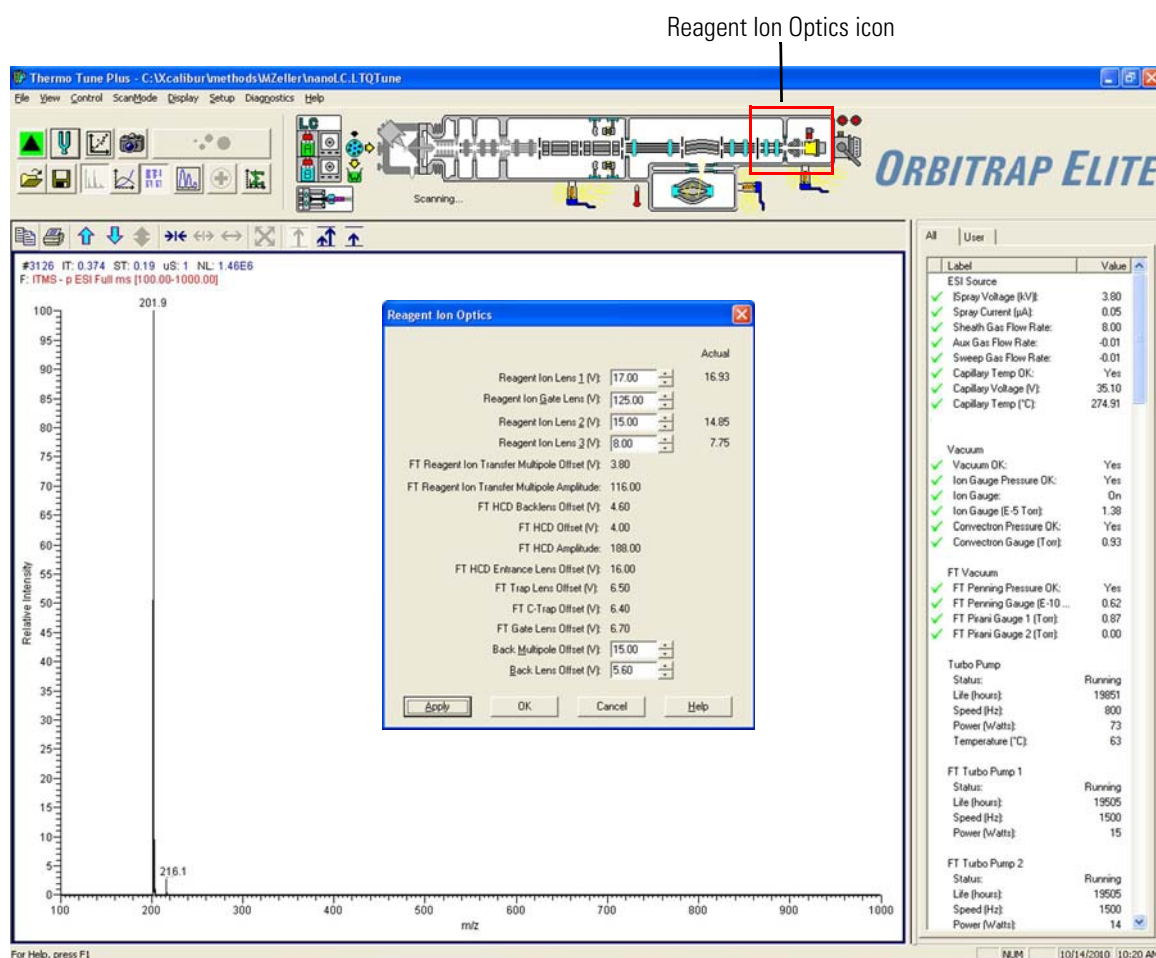

Figure 7-13. Tune Plus window with Reagent Ion Optics dialog box
- Click the **Reagent Ion Optics** icon at the top of the Tune Plus window. (See icon in margin and Figure 7-13.) The Reagent Ion Optics dialog box appears.